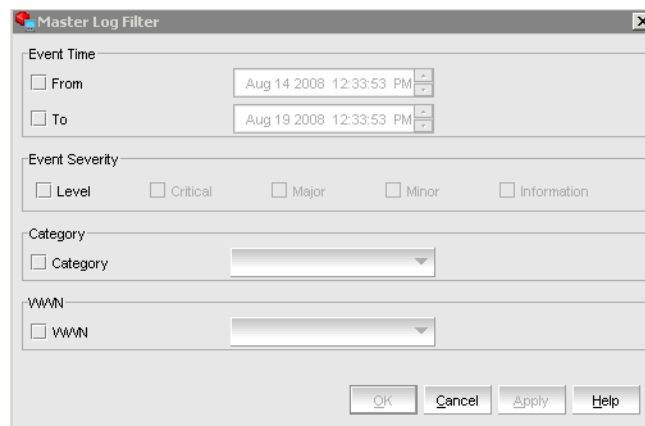

FIGURE 22 Master Log Filter dialog box
The **Master Log Properties** dialog box, described in Table 10, displays a list of all events that have occurred. Event monitoring enables early fault detection and isolation on a selected adapter. You can filter the events based on the user-defined criteria shown in Figure 22.
2. Filter the events using one or a combination of the criteria shown in Figure 22.